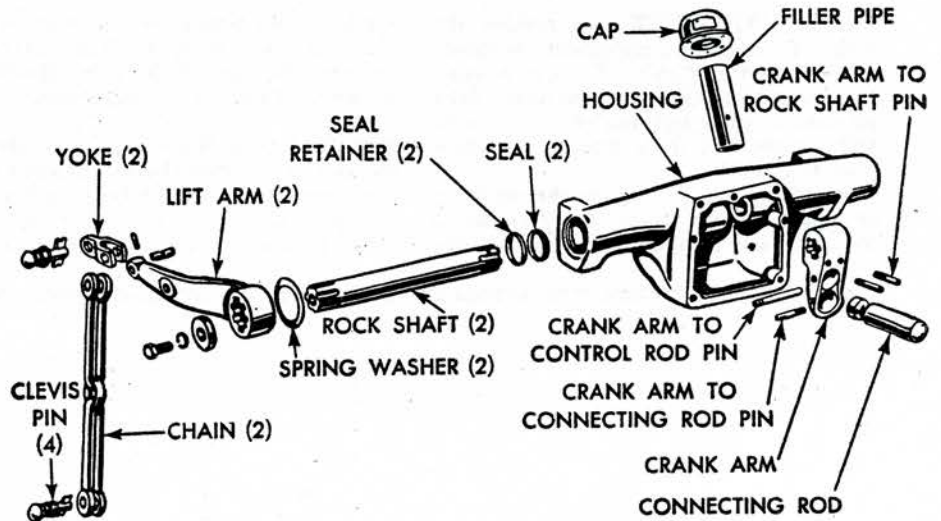

Fig. 64 Power lift rock shaft details. Series M
**ROCK SHAFT UNIT**—To remove the rock shaft assembly, disconnect the draw-bar lift chains. Drain oil from housing and disconnect and remove oil lines. Take off control knob and quadrant. Unfasten and remove unit from transmission case, Figs. 64 and 65.